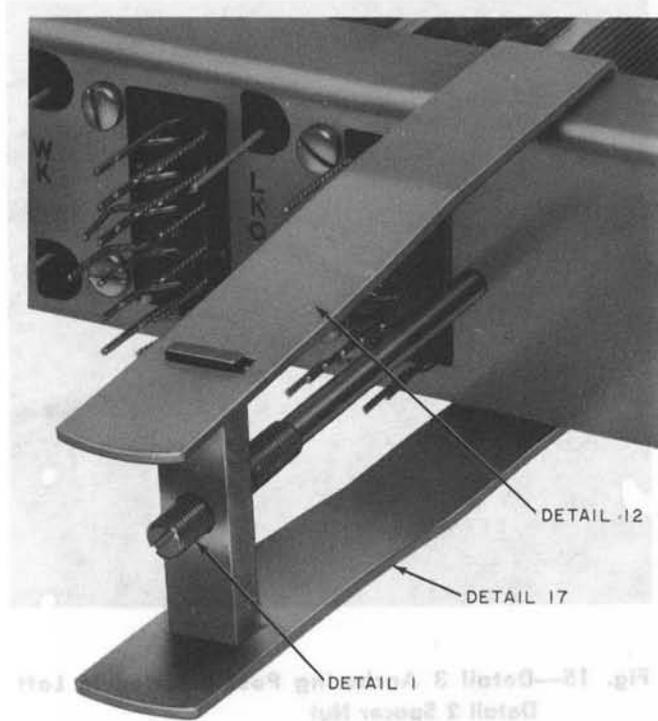

Fig. 17—Detail 12 Wedge Support, Detail 17 Wedge Support, and Detail 1 Wedge Support Assembly
- (a) Place the Detail 12 wedge support on the top flange of the mounting plate as shown in Fig. 17 and the Detail 17 wedge support on the lower flange (Fig. 17) close to the left corners of the relay. Assemble the Detail 1 wedge support assembly to Details 12 and 17 and tighten the screw against the mounting plate as shown.